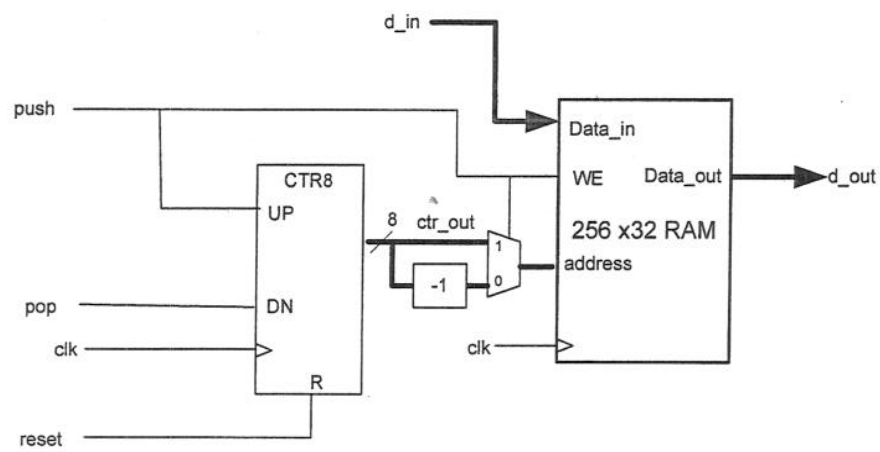

Figure 6.3
- b) Figure 6.3 shows a simplified block diagram of the LIFO circuit. Assuming that the counter was originally reset to 0, draw a timing diagram showing the operation of the LIFO for the sequence of operations: push, push, push, nop, pop, push, pop, push, push, push, pop, pop. Your diagram should include the signals: *clk*, *push*, *pop*, *ctr\_out*, and the address read/written to the block RAM.
- c) Modify the circuit shown in Figure 6.3 to include the LIFO full and empty detection.